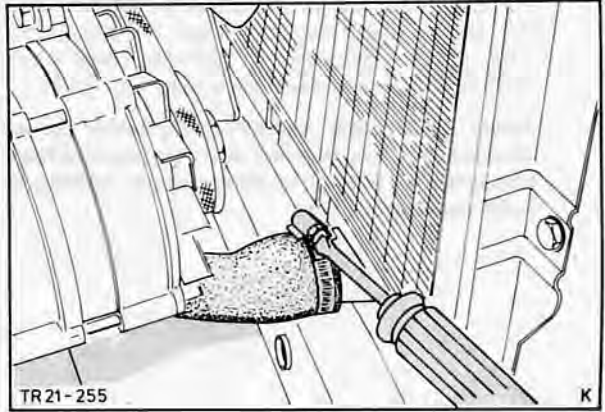

Fig. 136. Remove radiator hose from radiator
1. Disconnect battery earth strap and remove engine splash shield (5 screws), Fig. 136. Drain coolant into tray by disconnecting radiator hose from radiator bottom neck and engine water outlet at top.